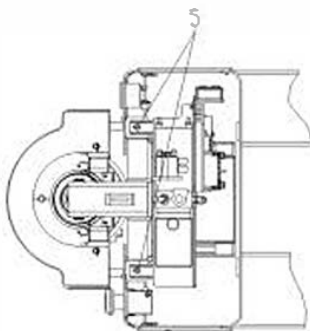

Fig.13
- (Fig.13) Loosen screw 5 so that the lithium battery is not compressed by the integrated base;